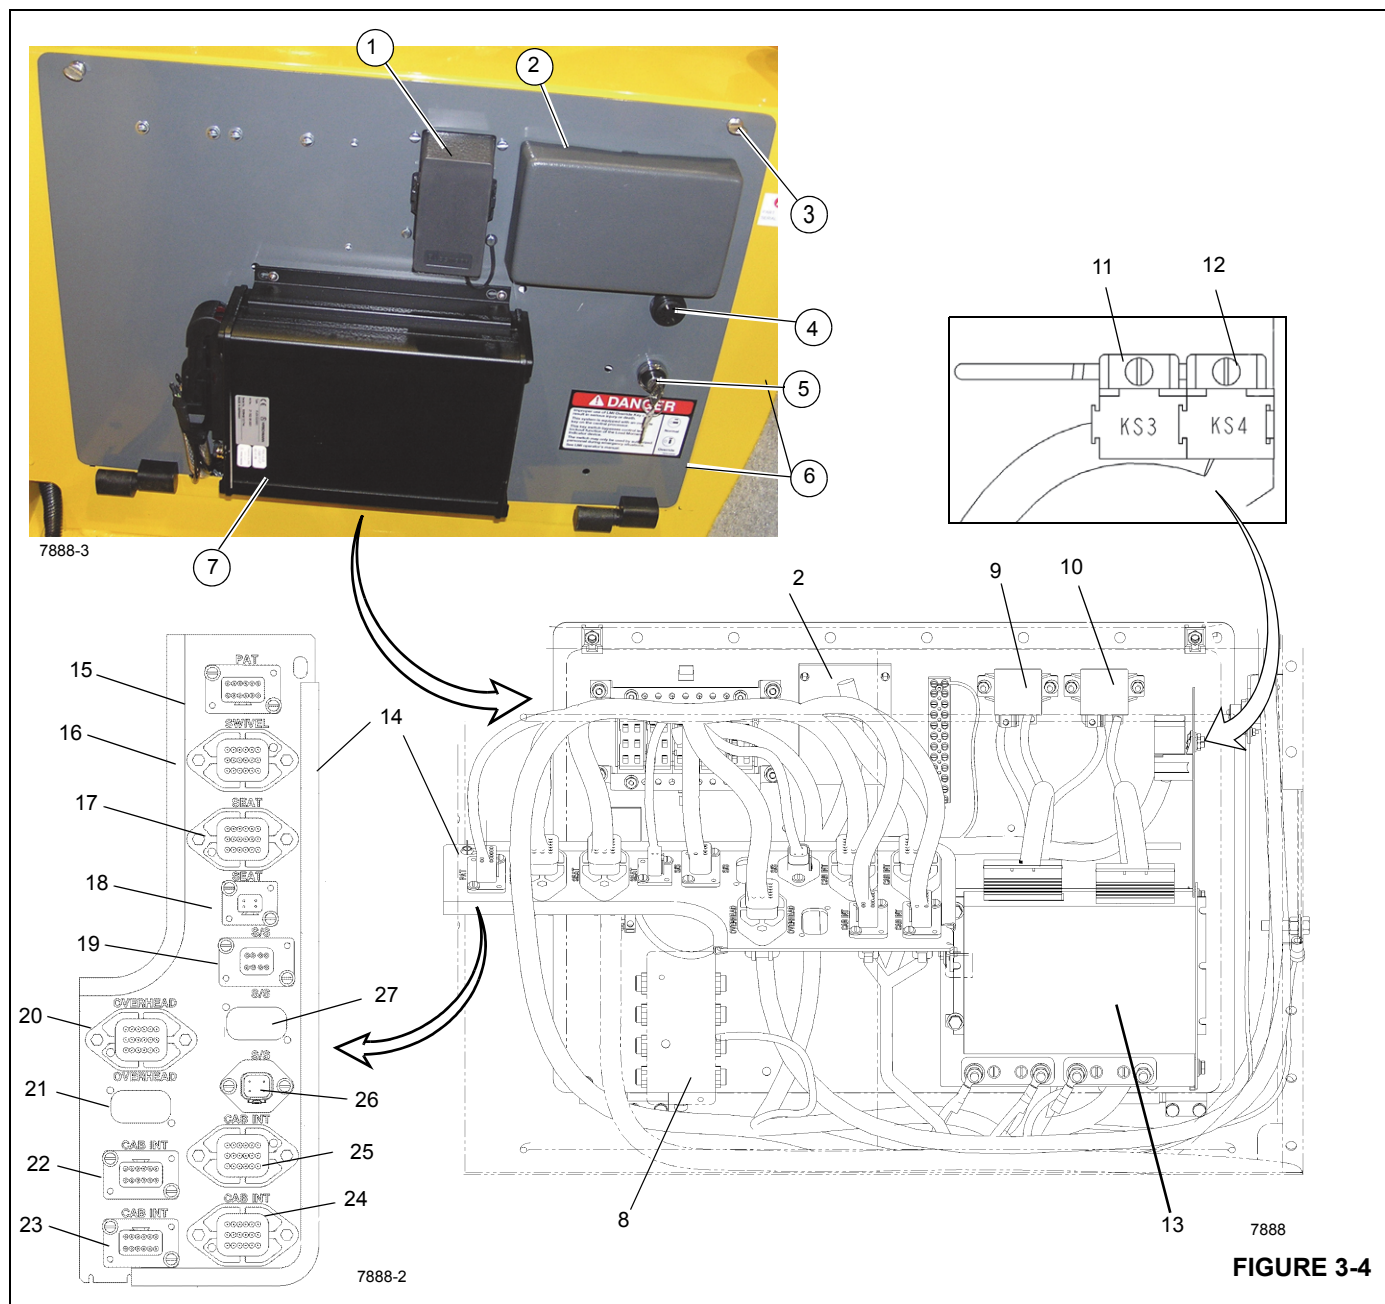

Figure 3-4 Item Numbers
The cab electrical panel (6) (Figure 3-4) contains the cab and superstructure relays, fuse box, wiring harness connector bulkhead, RCL module, RCL Override switch, and the fast pulse buzzer alarm. It is located inside the crane cab, behind the operator's seat. Access is gained to the back of the panel by removing the two screws (3) (Figure 3-4) securing the panel cover.
The two accessory relays (9, 10) (Figure 3-4) behind the cab electrical panel control power to fuses 9 - 20 in the fuse box. The coils of the accessory relays are energized when the ignition switch is at the RUN or ACC position.
The fuse box (2) (Figure 3-4) in the cab electrical panel contains twenty fuses. Fuses 1 through 5 are energized when the battery is connected. When the battery is connected and the Ignition Switch is at the RUN position, fuses 6 through 8 are energized. If the Ignition Switch is at the ACC position, fuse 8 will be energized while fuses 6 and 7 remain de-energized. Fuses 9 through 12 are energized through ACC relay # 1 and 13 through 20 are energized through ACC Relay#2.